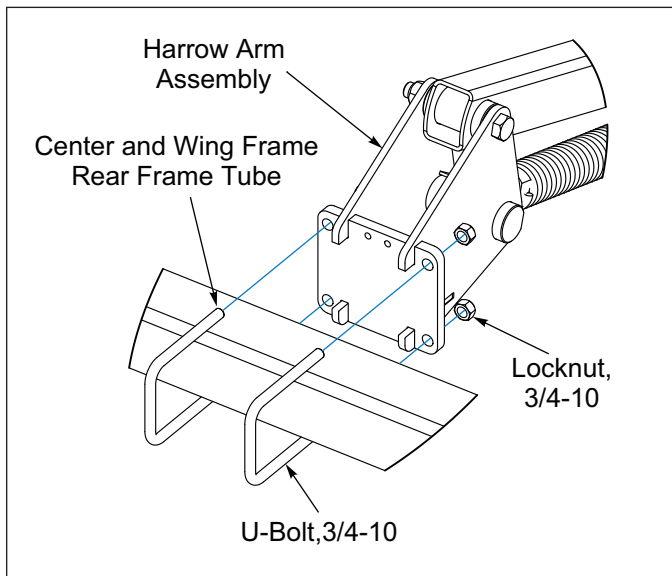

Figure 2-75: Harrow Arm Installation to Frame
2. Position Harrow Arm Assembly on the Center Frame Rear Roller Tube or Wing Frame Rear Tube. Secure with 3/4-10 U-Bolts and Locknuts. **See Figure 2-75.**